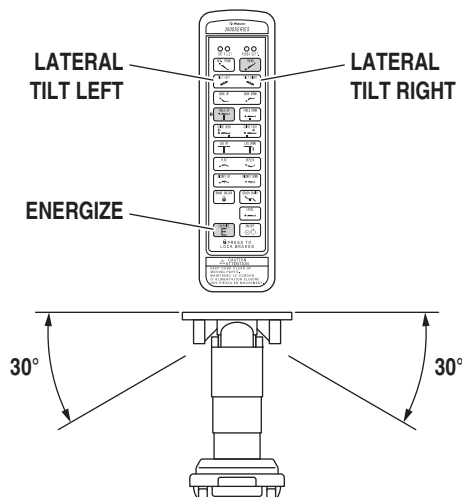

Figure 2-8. Lateral Tilt Positioning
c. Lateral Tilt To achieve lateral tilt right (as viewed from the head end of the table), press the ENERGIZE button and then the TILT RIGHT button (figure 2-8). To achieve lateral tilt left, press the ENERGIZE button and then the TILT LEFT button. Tilt of up to 30° may be obtained.